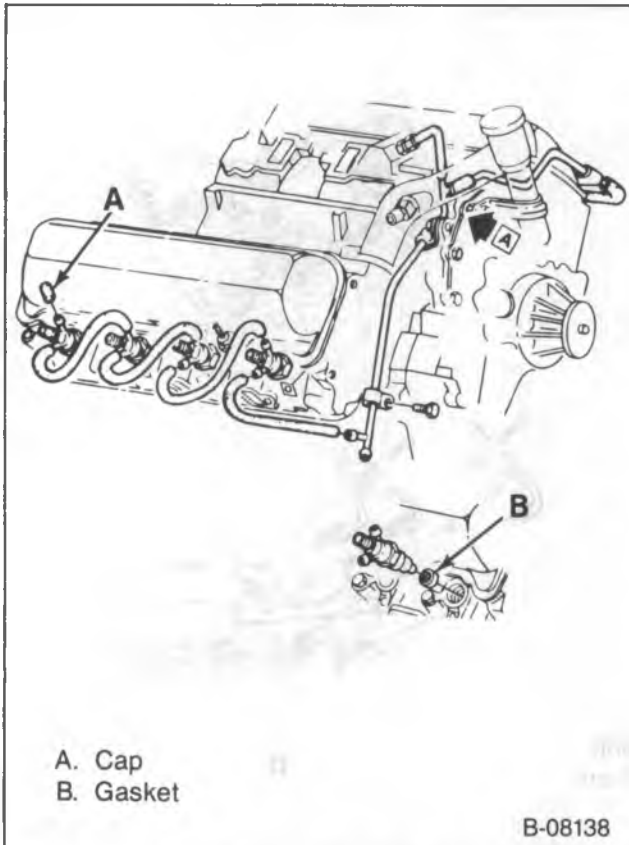

Figure 5—Injection Nozzles
- ↔ Remove or Disconnect (Figure 5)